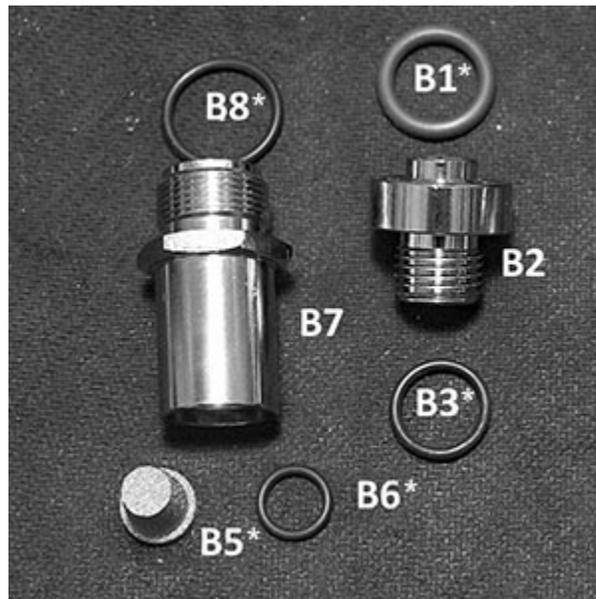

Fig. 10
5. Remove the O-ring (B8*) from the DIN Housing, the DIN Retainer O-rings (B1*, B3*), and remove the DIN Filter and its O-ring (B6*) from the DIN Housing - Fig. 10.